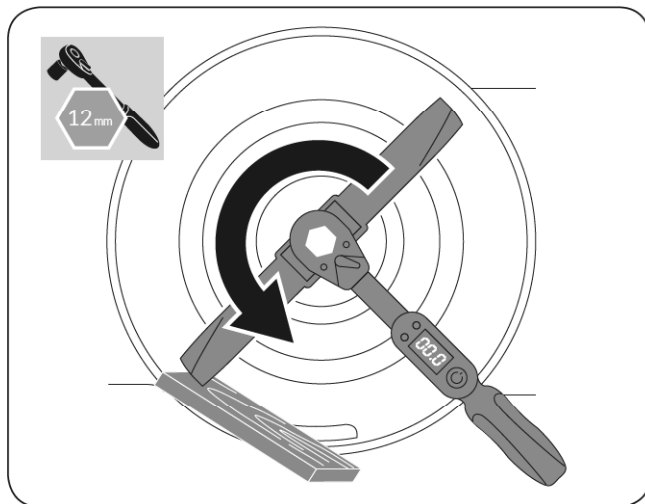

Figure 20
3. Tip the machine onto its side with the air filter and carburetor facing up. Use a block of wood to hold the blade steady. (See **Figure 20**)